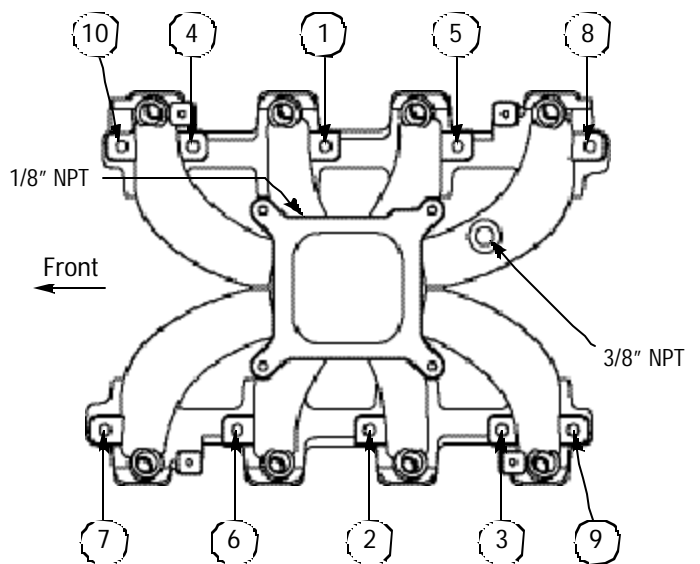

Figure 1 - Intake Manifold Tightening Sequence
1. *(Note: Use only original equipment (GM P/N 12533587) O-Ring type gaskets when installing this intake manifold). No gasket sealer is required when using the OEM type gaskets. Using the supplied 6mm x 50mm hex head bolts and 1/4" AN washers, mount the manifold to the engine. The Gen III throttle bracket mounts under the two left side rear intake manifold bolts. Following the torque sequence in Figure 1, torque all manifold bolts to 11 ft/lbs.*